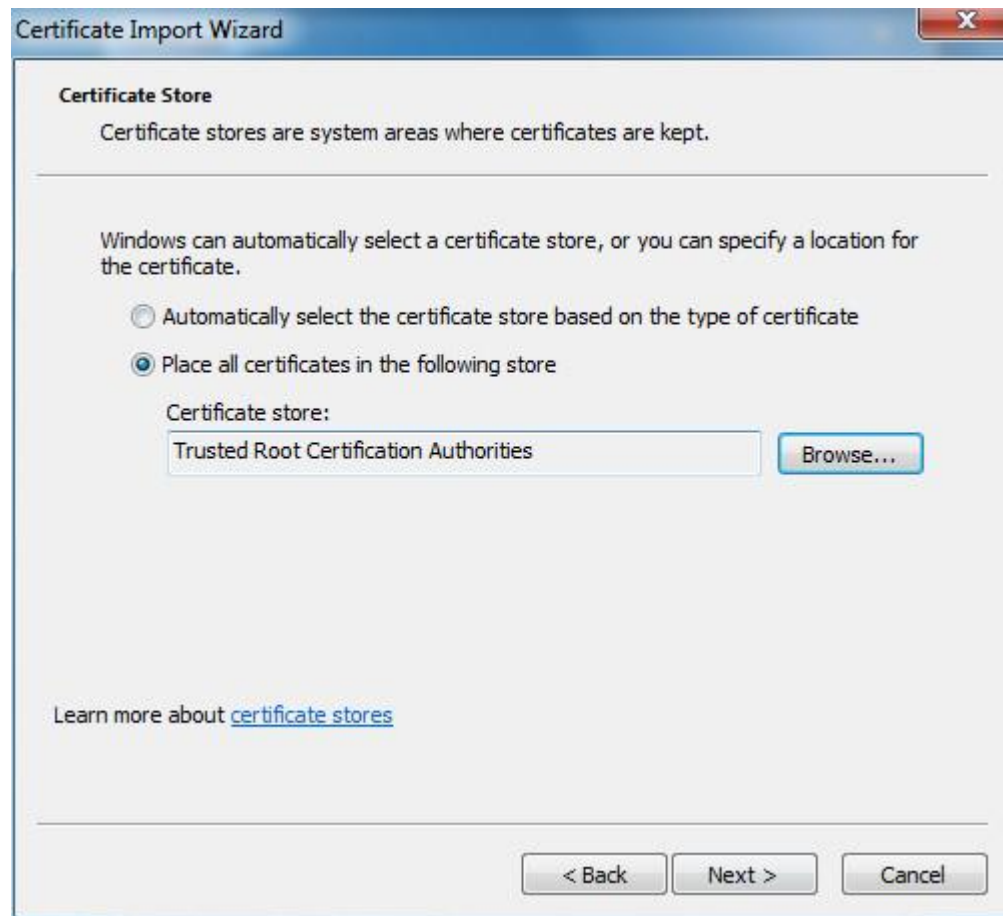

Figure 4-58
3. Click "Next" and the system will display the interface of "Certificate Store", which is shown in Figure 4-58.